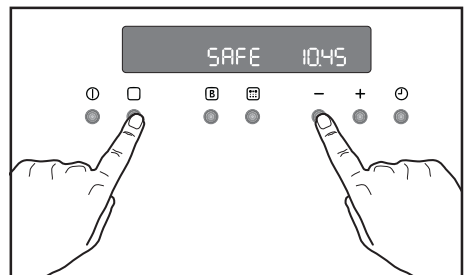

Fig. 13
- 2) Press buttons  and  at the same time and keep them pressed for about 3 seconds. An acoustic signal will be emitted and the indication 'SAFE' will appear on the display (Fig. 13).